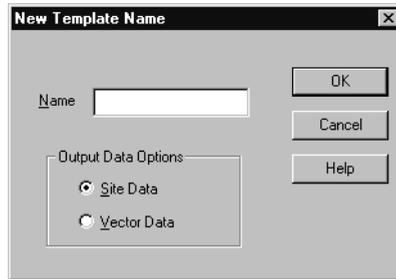

Figure 8.3. New Template Name Dialog Box
1. If you click **New** or **Modify** in the **User ASCII Template** dialog box, the **New Template Name** dialog box opens, Figure 8.3.